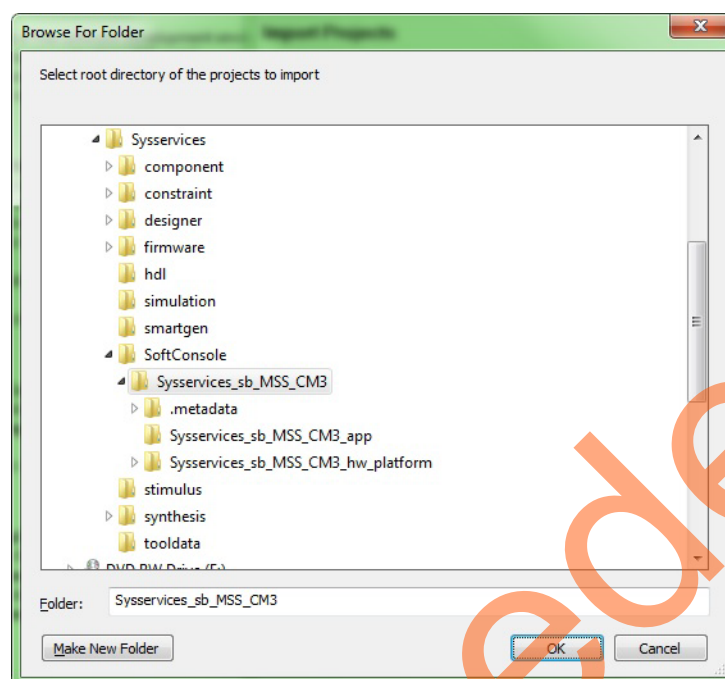

Figure 25 • Selecting System Services
4. Browse through the Syssservices projects folder and select it as shown in Figure 25.